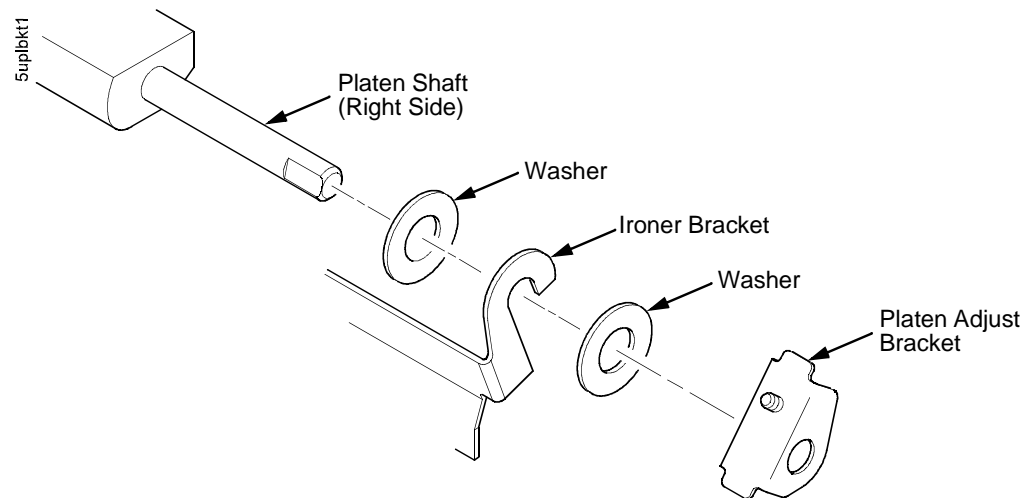

Figure 28. This figure shows how to install the platen adjust bracket on the right side platen shaft.
2. Install two washers on the longer (right) platen shaft. (See Figure 28.)
8. Insert the shorter platen shaft through the left adjust bracket and through the opening in the left side plate. Rotate the longer shaft into the opening in the right side plate and position the adjustment brackets as shown in Figure 28.
14. Install the paper ironer bracket. (See Figure 28, page 394):
For the right side of the platen, a washer goes on both sides of the paper ironer hook and the hook goes to the left of the right platen adjustment bracket. (See Figure 28, page 394.)